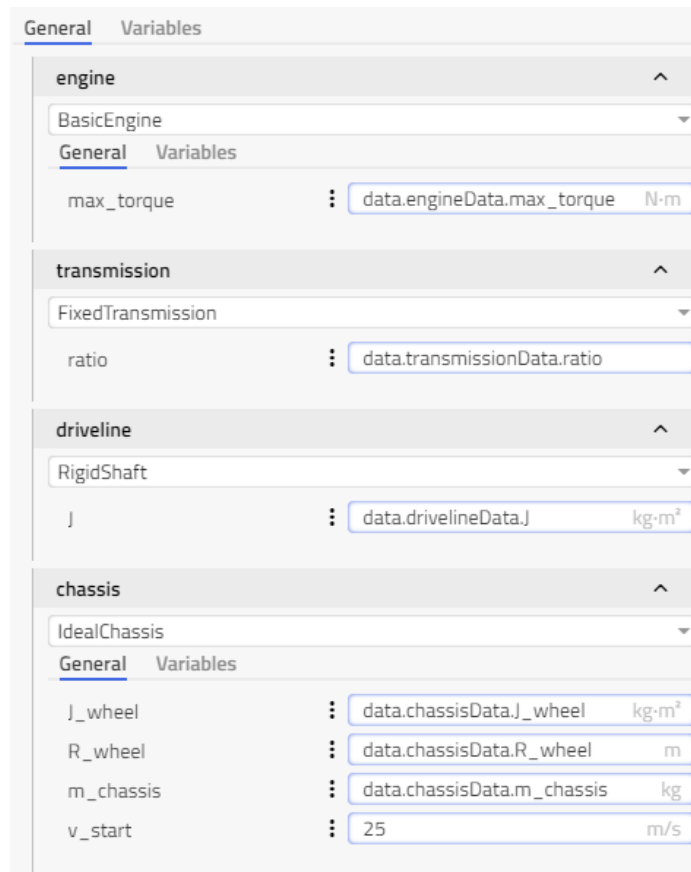

Figure 11 Parameter for other three components
12. Do the same thing for the parameters in the *Transmission*, *Driveline* and *Chassis* components. See the Figure 11.